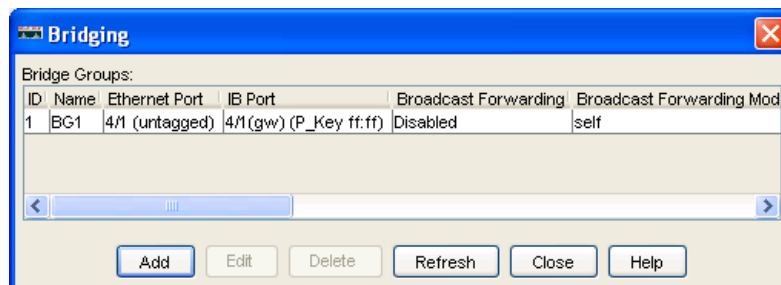

Figure 7-10 Bridge group created
4. After you have completed the three tabs in the Add Bridge Group window, click **Add** at the bottom of the window. The commands are executed on the 3012 to provision this bridge group with the defined characteristics and the bridge group information as shown in Figure 7-10.